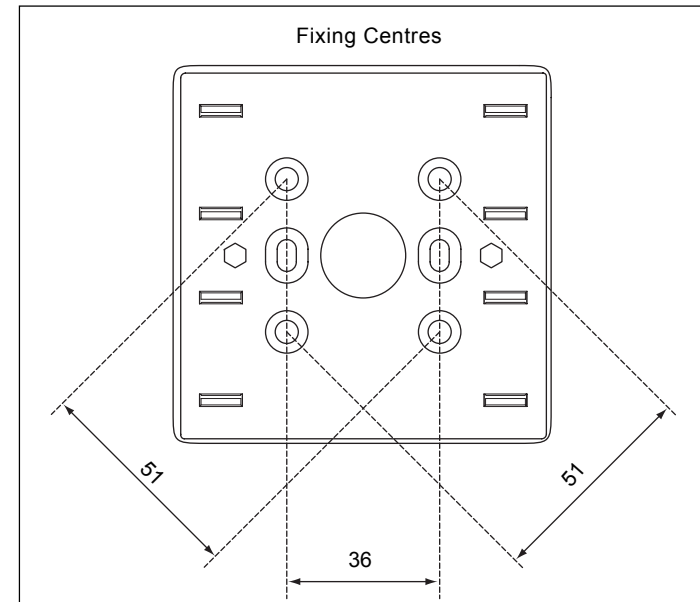

Fig 1 Rear view of backbox
1. Fit the backbox to the wall (Fig 1). For correct orientation see arrows inside backbox.